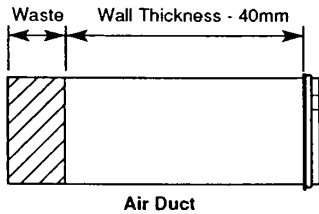

Fig. 22
4. Measure the same amount from the flange end of the **Air Duct** and cut the waste off the plain end (Fig. 22).